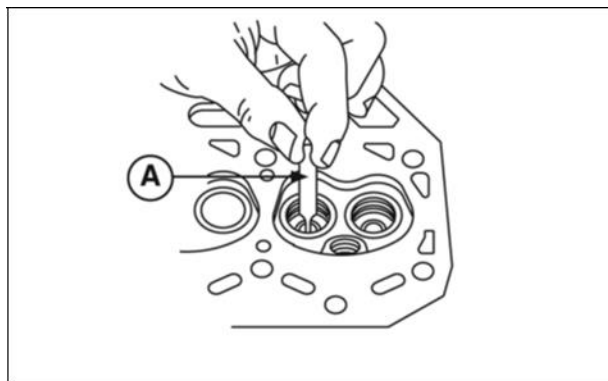

Figure 14
5. Inspect valve guide bushing for damage. Check valve guide bushings for wear using Reject Gauge #19382, (A, Figure 14).